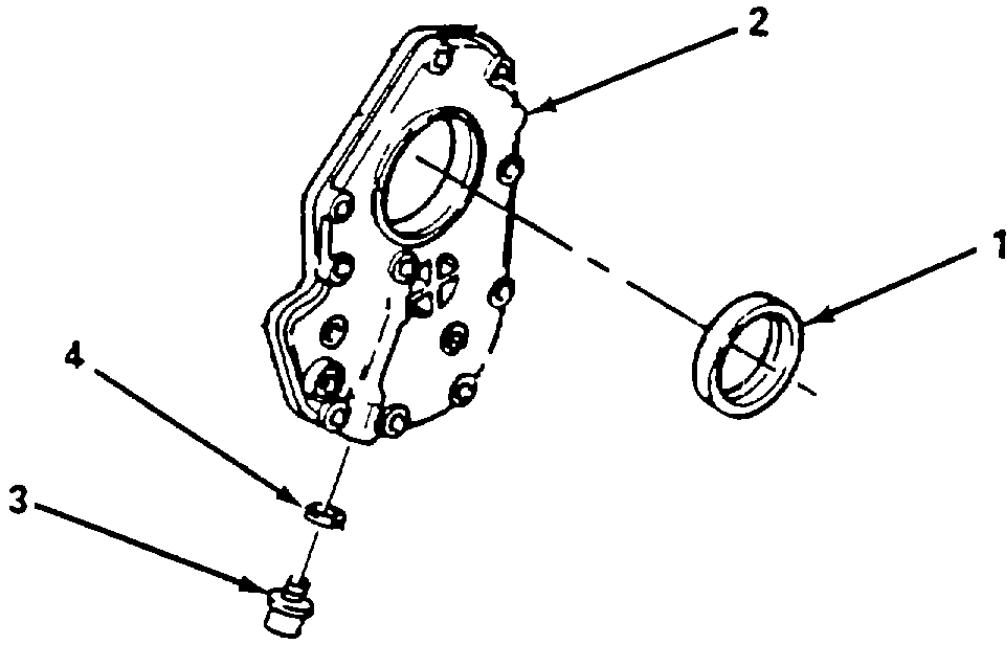

Figure 5-69. Engine Front Cover, Repair.
- b. *Repair.* (figure 5-69)
- (1) Remove front cover (para. a. above).
- (2) Remove shaft seal (1) from front cover (2).
- (3) Remove screw plug (3) and sealing ring (4).